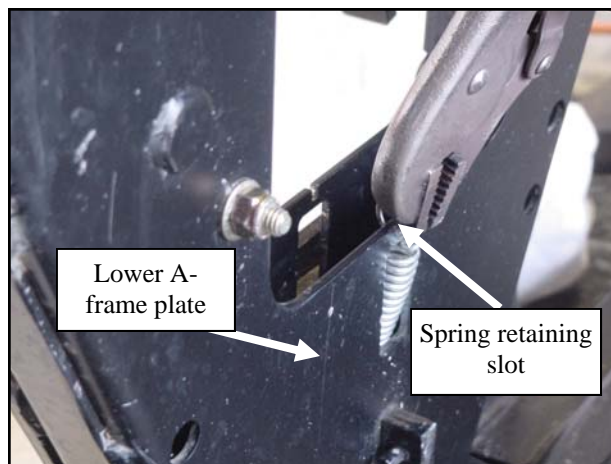

Fig. 7.5—Blade angle handle installed
- 7.5 Per fig 7.5, with a pair of vice-grips stretch the handle spring away from moldboard and engage the spring hook into the retaining slot of the lower A-frame plate.